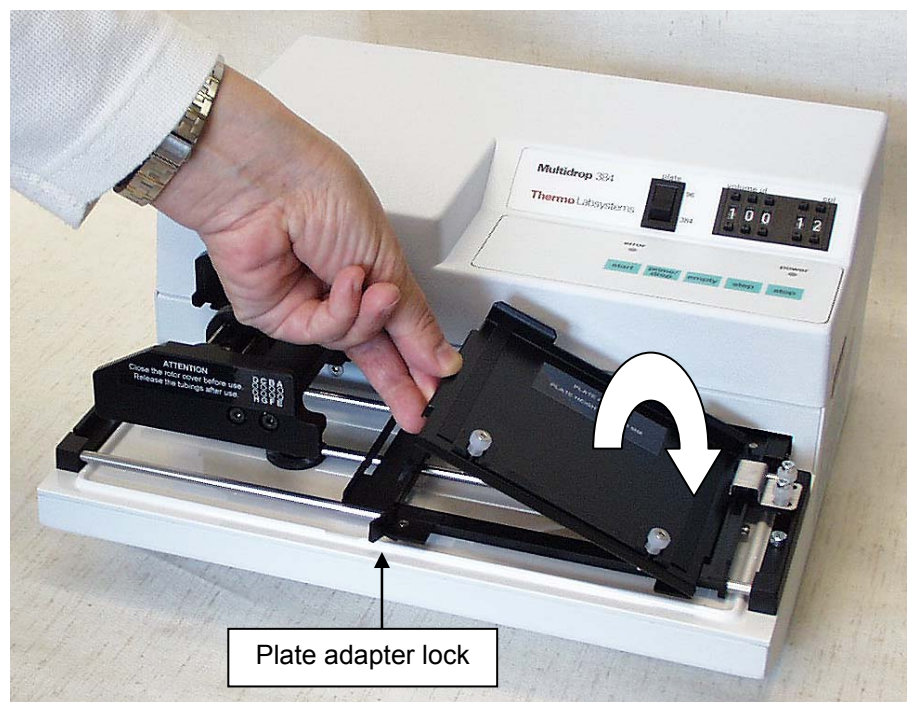

Fig. 6.9 Placing the right end of the plate adapter
2. Take the plate adapter in your left hand and lower the right end. Place the plate adapter into the right end corner of the plate carrier (*Fig. 6.9*).